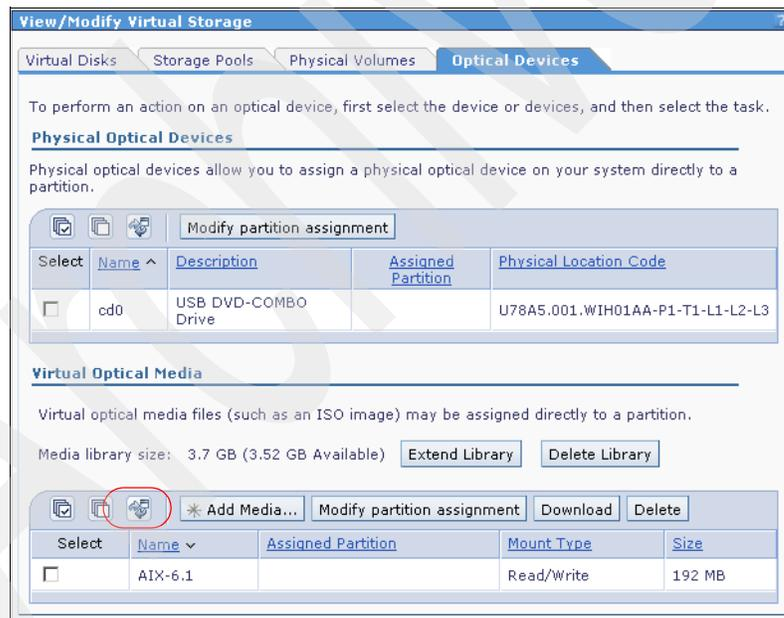

Figure 4-10 Media library - newly created media
9. After closing the browser window of the add media dialog, you return to the view shown in Figure 4-10. The new media is already listed here. Clicking **Refresh** updates the size information during the copy operation.